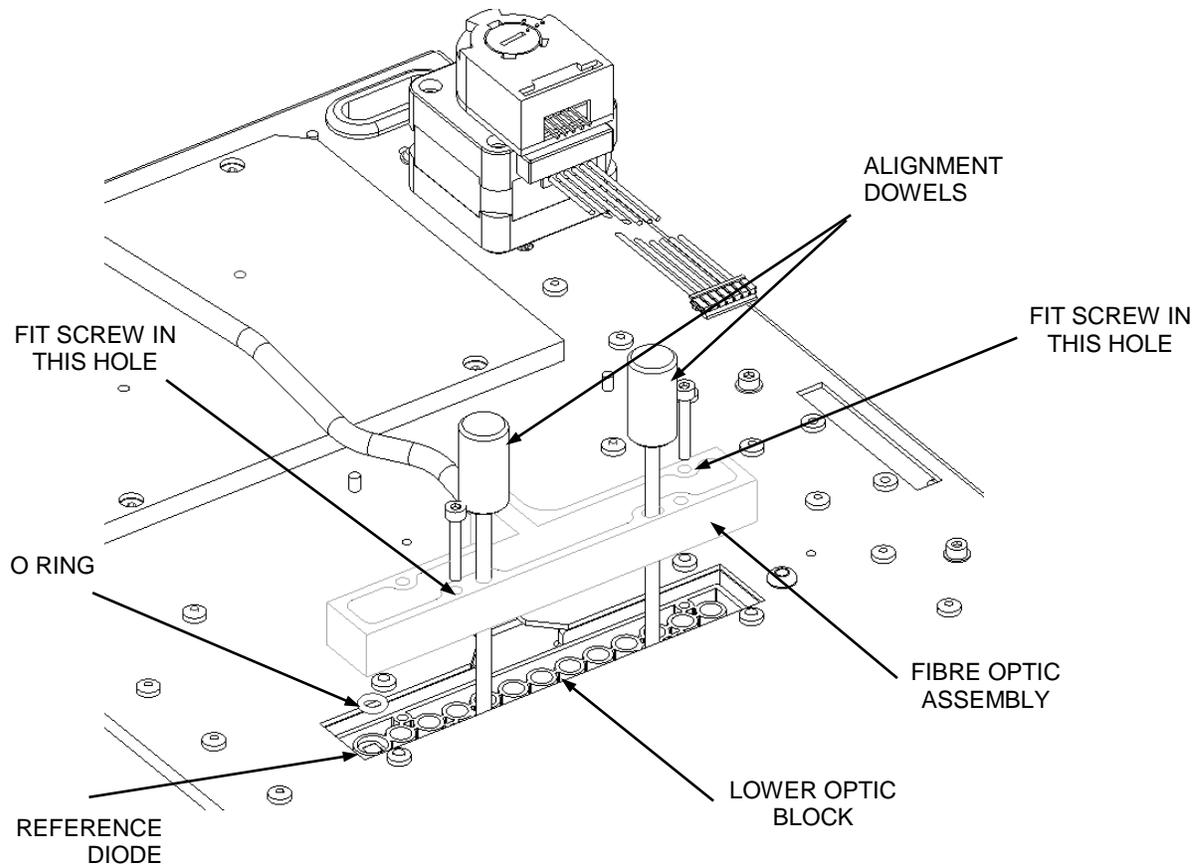

Figure 12-14: Attaching Fiber Optic Assembly to Lower Optical Block
2. Remove the Fiber Optic assembly from the lower optical block by removing the two screws as shown in Figure 12-14.
3. Fit the Fibre Optic Assembly to the underside of the lower Optical Block using two M3X20 Skt Cap Screws in the positions shown in Figure 12-14. Do not over tighten the screws.